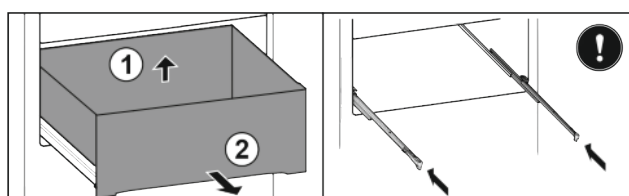

Fig. 30*
- ▶ Lift up the drawer at the back *Fig. 30 (1)*.*
- ▶ Take out to the front *Fig. 30 (2)*.*